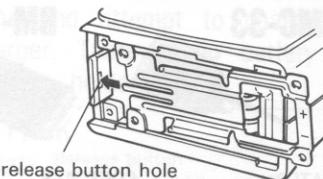

Fig. 4.
10. Fit the end of the terminal plate into the release button hole and tighten the screws (Fig. 4).